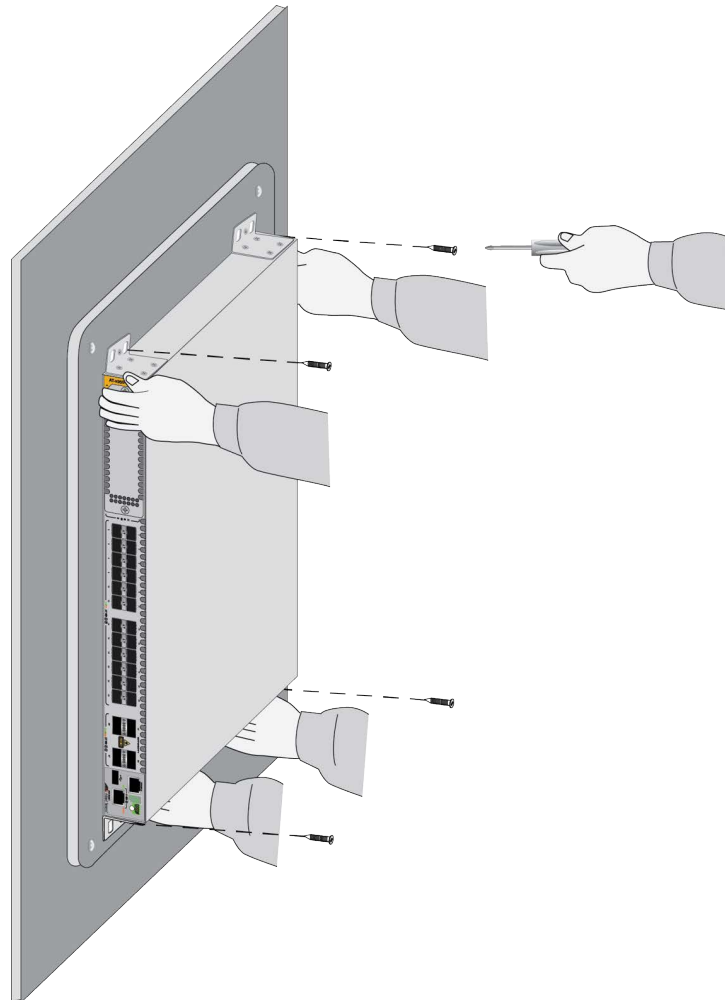

Figure 98. Attaching the Switch to the Plywood Base
3. After attaching the brackets to the side of the switch, have two people hold the switch on the plywood base on the wall while you secure it with the four provided screws. Refer to Figure 98.